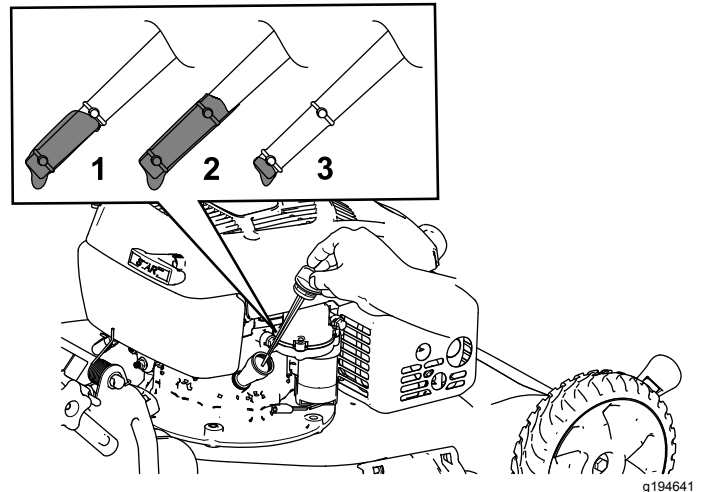

Figure 28
3. Remove the dipstick by rotating the cap counterclockwise and pulling it out (Figure 28).
4. Tip the machine onto its side (so that the air filter is up) to drain the used oil from the oil-fill tube (Figure 28).
10. Read the oil level on the dipstick (Figure 28).